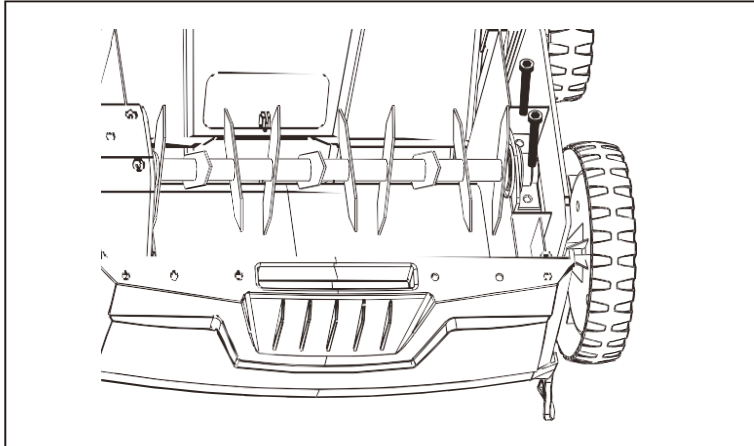

Fig. 10
1. Loosen the two bolts with a hex key and remove them along with the spring washers. (see Fig. 10).